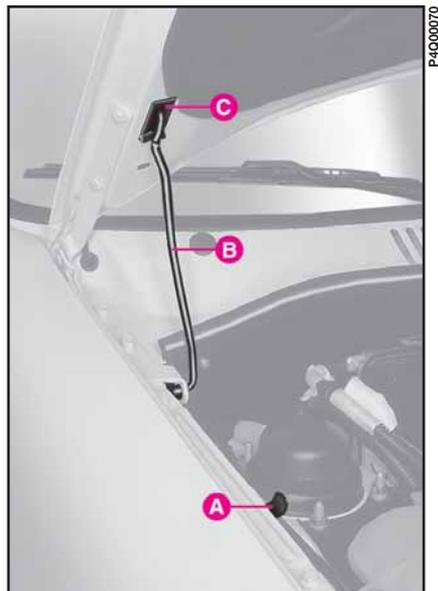

fig. 76
- 3) Lift the bonnet and release the support rod **B-fig. 76** from its clip **A**.
1) keep the bonnet lid raised with one hand and remove the rod **B**-fig. 76 from the recess with the other **C** then secure it in its clip **A**.